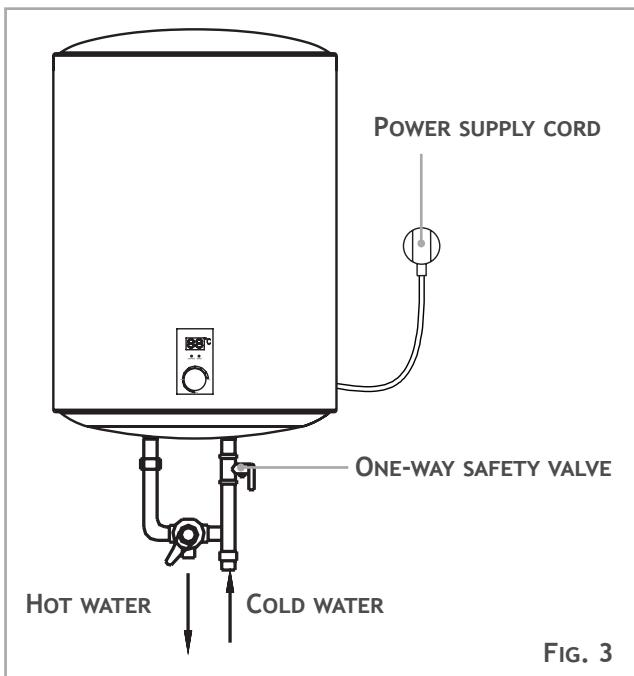

FIG. 3
4. THE ONE-WAY SAFETY VALVE VERTICAL INSTALLATION ATTACHED WITH THE MACHINE MUST (FIG.3) BE INSTALLED AT THE COLD WATER INLET OF THIS MACHINE (SEE FIG.3).